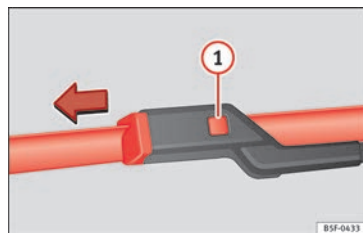

Fig. 92 Changing the windscreen wiper blade.
- Press the securing tab down ① » **Fig. 92.**